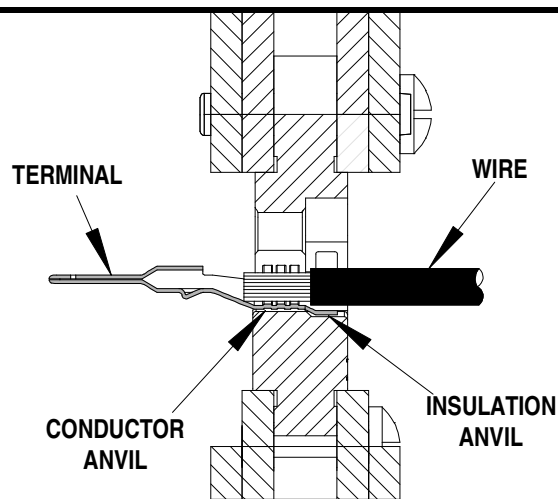

Figure 2
4. Place a pre-stripped wire into the terminal (see Scope chart for recommended strip lengths). Position the wire so the conductor lies in the conductor grip. See Figure 2.
If the tool ever becomes jammed in a partially closed position, **DO NOT** force the handles open or closed. The tool will open by lifting the ratchet release lever. See Figure 2.